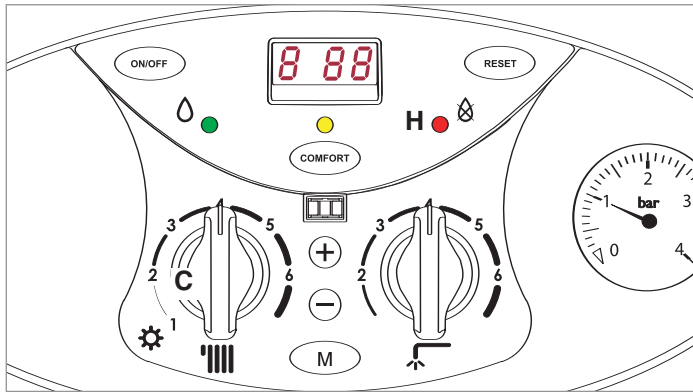

FIG. 3.5
- push the On/off button **ON/OFF** and turn the knob "C" (Fig. 3.5) to the "winter" position. The boiler pump will start up and three consecutive attempts will be made to ignite the burner. After the third attempt, the electronic system will shutdown the boiler, because the supply of gas has been cut off. The message "R 0 ?" will appear on the display and the red LED "H" will illuminate;